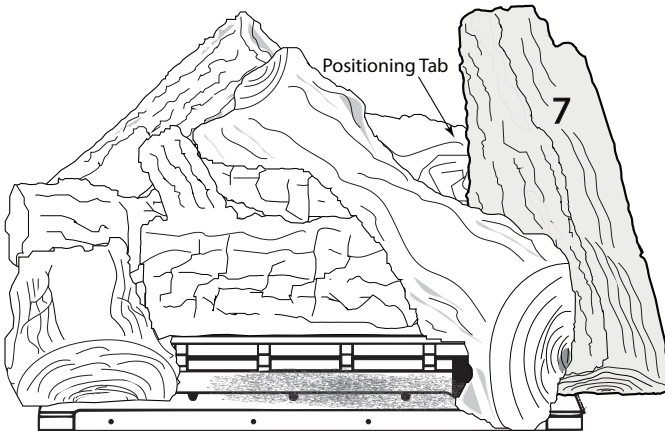

Figure 6.26 - Log #7 Placement
8. Place Log #7 on the lower right side of the burner. Log #7 should rest on the front edge of the burner and the lower left side should contact Log #5. The upper left side of Log #7 should sit flush against the positioning tab on Log #2. See Figure 6.26.